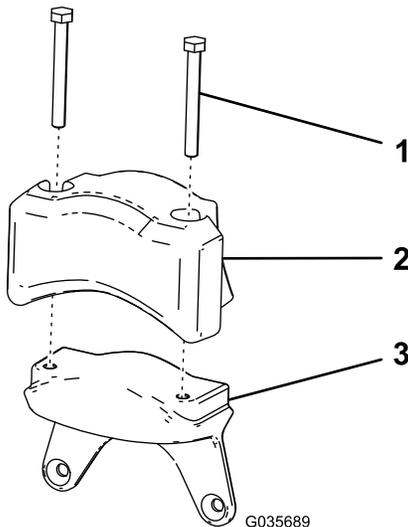

Figure 9
- Assemble the electric counterweight and 2 cap screws (5/16 x 2-3/4 inches) that you removed in step 5 of 2 Preparing the Cutting Unit (page 3) to the new weight (Figure 9).